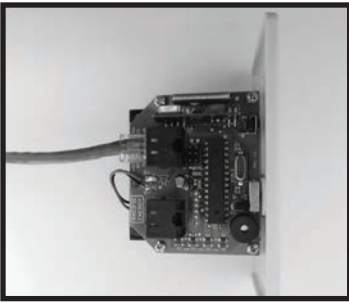

Figure 58: Wall switch - electronics side.
3. Wall mounted Remote Control Receiver (Figure 58) & (Figure 59).